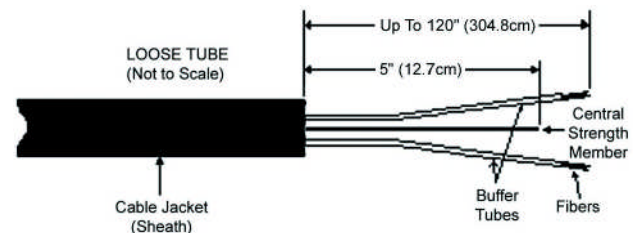

Figure 6
5.2 Bundle Preparation Refer to figure 6